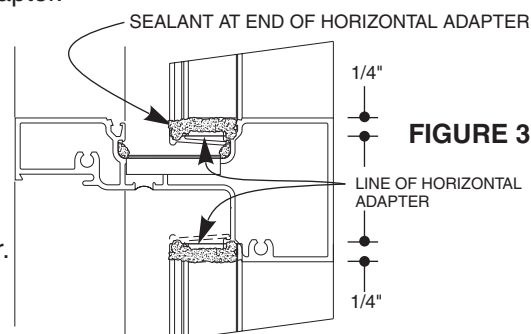

FIGURE 3
STEP 3: Snap vertical adapters into glazing reglets of frame and assemble frame as instructed. In partial length applications, vertical adapter should be positioned to allow sealing of the horizontal adapter to the vertical adapter (approximately 1/4" projection into horizontal pocket, **Figure 3**). It may be necessary to lightly crimp vertical adapter in place to prevent sliding.
STEP 4: Snap vertical adapters into glazing reglets of frame. Adapter should be positioned to allow sealing of horizontal adapter to the vertical adapter (approximately 1/4" projection into horizontal pocket, **Figure 3**)